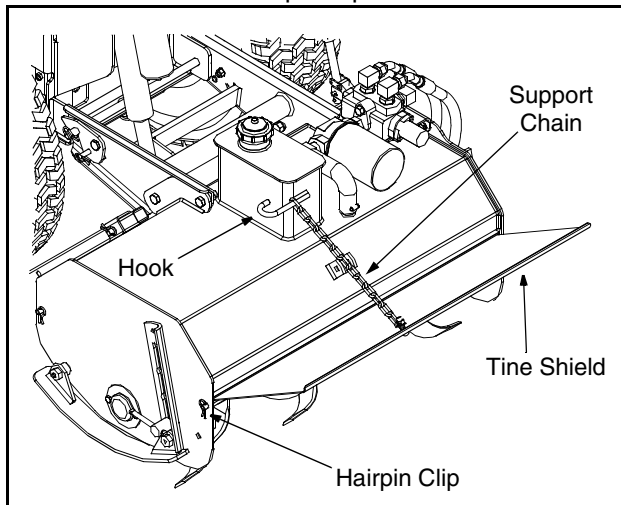

Figure 2
- Carefully unhook the support chain from the welded hook found to the rear of the hydraulic fluid fill spout. See Figure 2.
- Remove the hairpin clip from the left end of the tine shield pivot rod found on the left side of the tiller housing. See Figure 2. Save this hairpin clip.
- Locate a hex screw, flat washer, spacer, belleville washer and hex nut from the hardware pack. Refer to Figure 2.